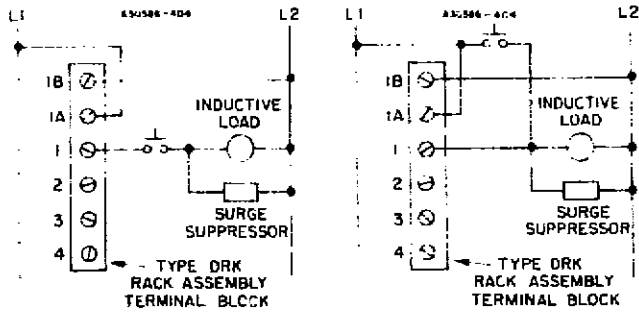

Figure 2
- When the Type DOM-235 Deluxe Output Module is wired in series or in parallel with hard contact switches to control an inductive load (such as a motor starter or a solenoid), additional transient noise suppression should be provided. Figures 2, 3 and 4 show different wiring configurations. In each case, the suppressor should be installed close to the inductive load.